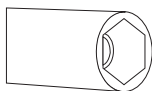

Figure 3
1. Please use driver with special head for removed and install nozzle as (fig 3).